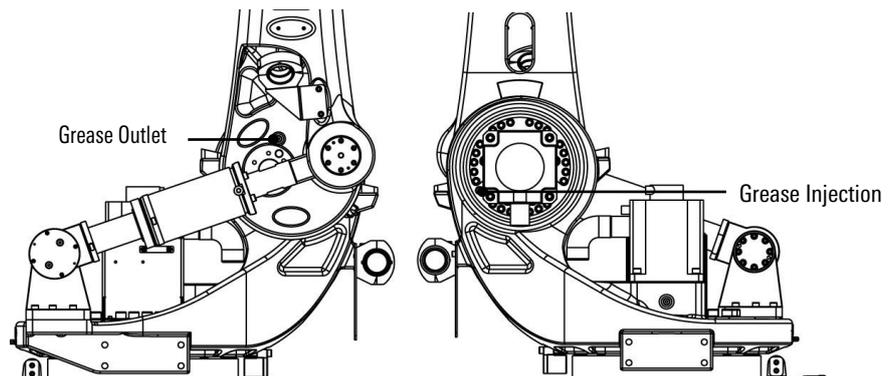

Figure 13-5 Replace the grease of J2 axis reducer13
- Remove the grease outlet M10x1 plug, as shown in Figure 13-5.